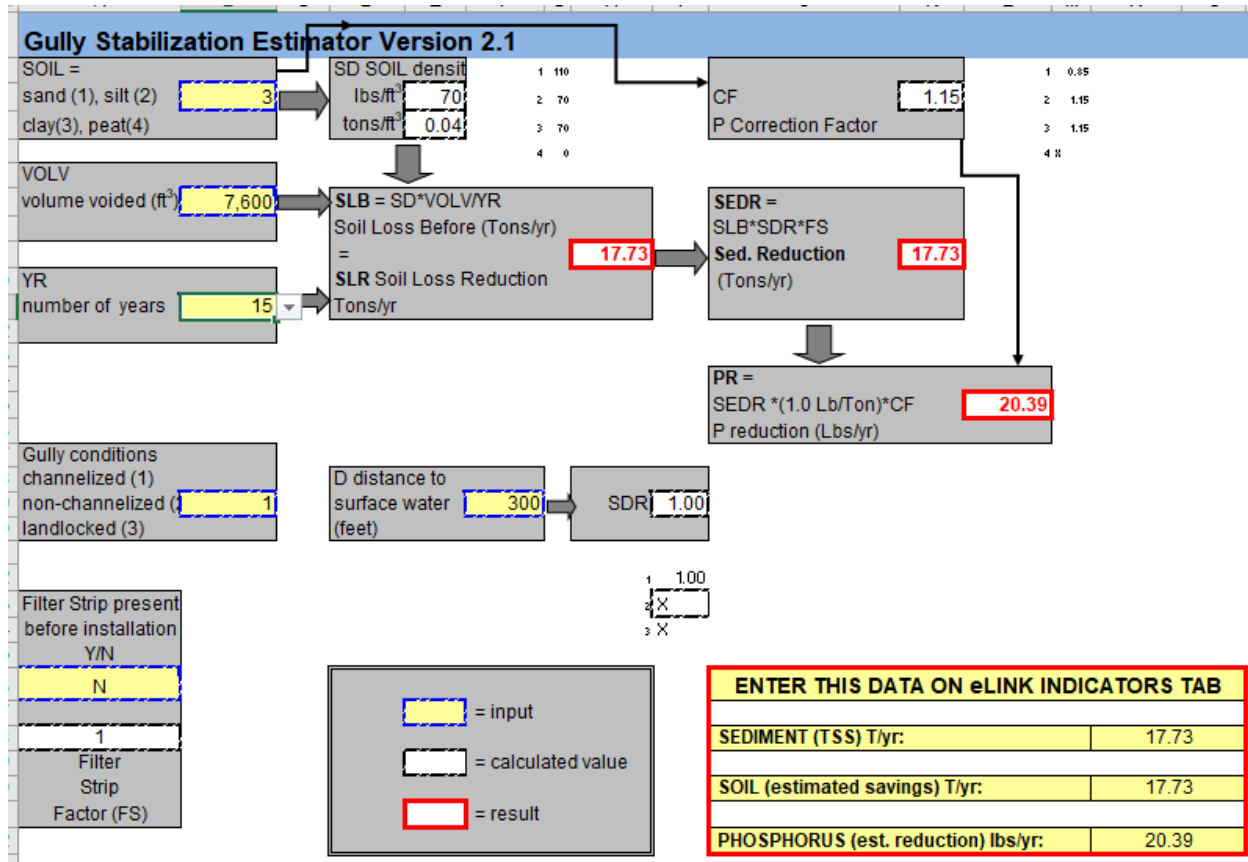

Figure 17. Gully Tab
- Open the Gully tab in the BWSR Water Erosion Pollution Reduction Estimator spreadsheet (Figure 17).